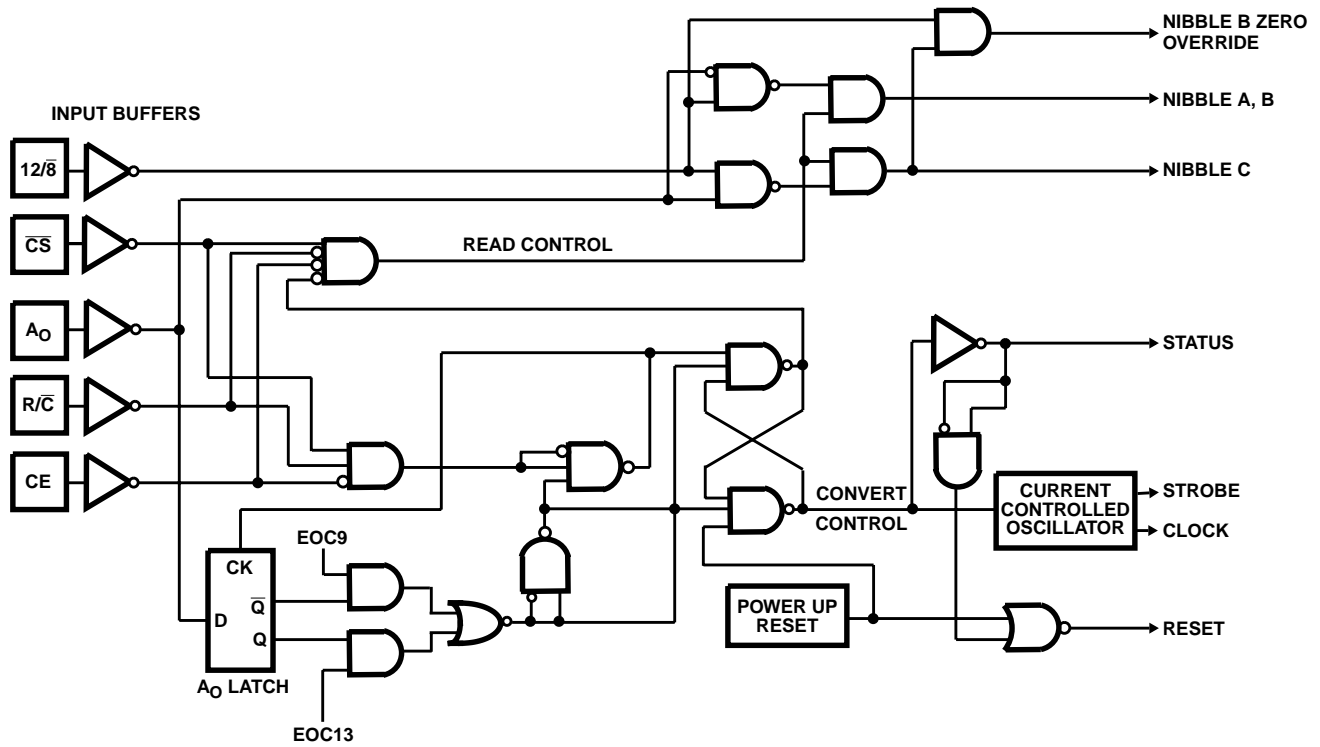

FIGURE 7. HI-774 CONTROL LOGIC
The HI-X74(A) includes logic for direct interface to most microprocessor systems. The processor may take full control of each conversion, or the converter may operate in the “stand-alone” mode, controlled only by the R/C input. Full control consists of selecting an 8-bit or 12-bit conversion cycle, initiating the conversion, and reading the output data when ready—choosing either 12 bits at once or 8 followed by 4, in a left-justified format. The five control inputs are all TTL/CMOS-compatible: (12/8, CS, A\_O, R/C and CE). Table 1 illustrates the use of these inputs in controlling the converter’s operations. Also, a simplified schematic of the internal control logic is shown in Figure 7.